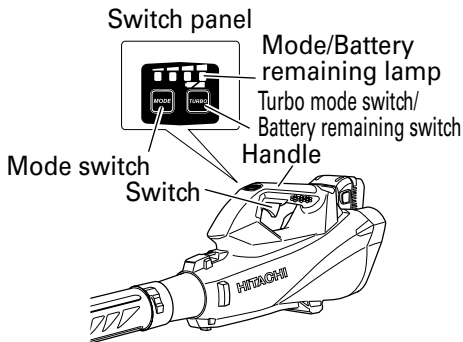

Fig. 3
- **The mode switch and remaining battery display functions (Fig. 3)**